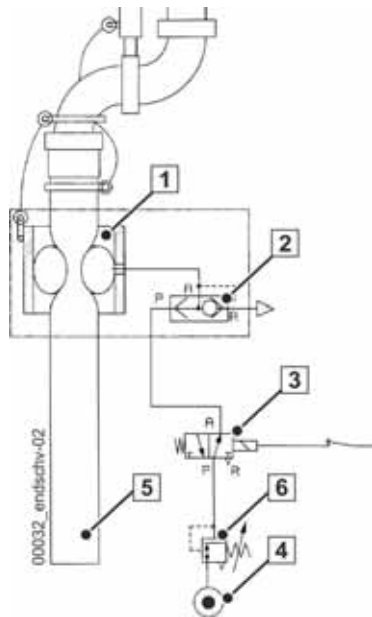

Fig. 450 Non-return valve closed
The solenoid valve (3) (**Fig. 450**) is energised and switches.